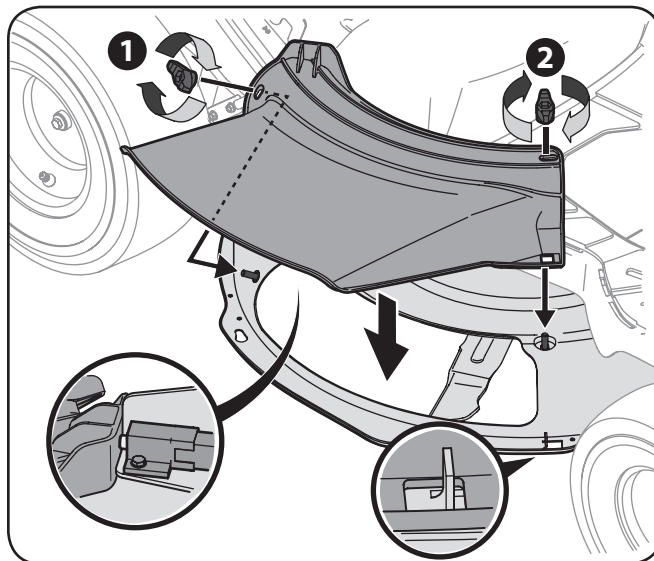

Figure 3-9
2. Install the deck chute into the deck discharge opening on the deck. The studs on the deck surface will fit through the holes on the upper portion of the deck chute. The small tab on the deck lip area will fit through the square cutout on the lower portion of the deck chute. See Figure 3-9.
3. Secure the deck chute by tightening the wing knobs removed earlier. See Figure 3-9.